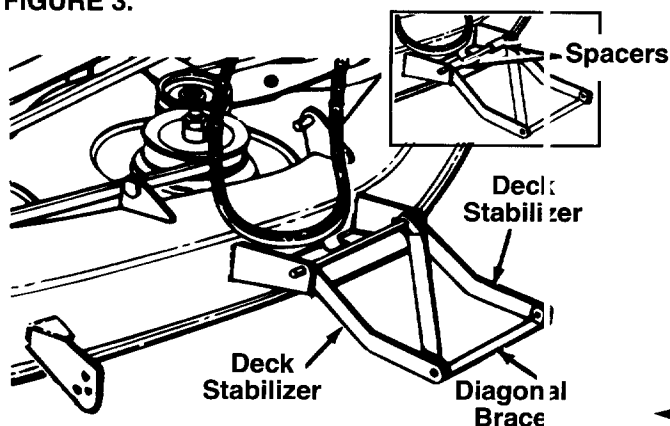

FIGURE 4.
3. The two deck stabilizers and the diagonal brace which are attached to the front of the deck are folded back over the deck for shipping purposes. Unfold them at this time. See figure 4.
**NOTE:** If the hardware for attaching the deck is assembled to your deck, remove the hairpin clips and flat washers from each deck bracket. Remove the spacers from the rod which is through the deck stabilizer by removing the hairpin clips and sliding out the rod. Replace the rod and hairpin clips. See figure 4, inset.